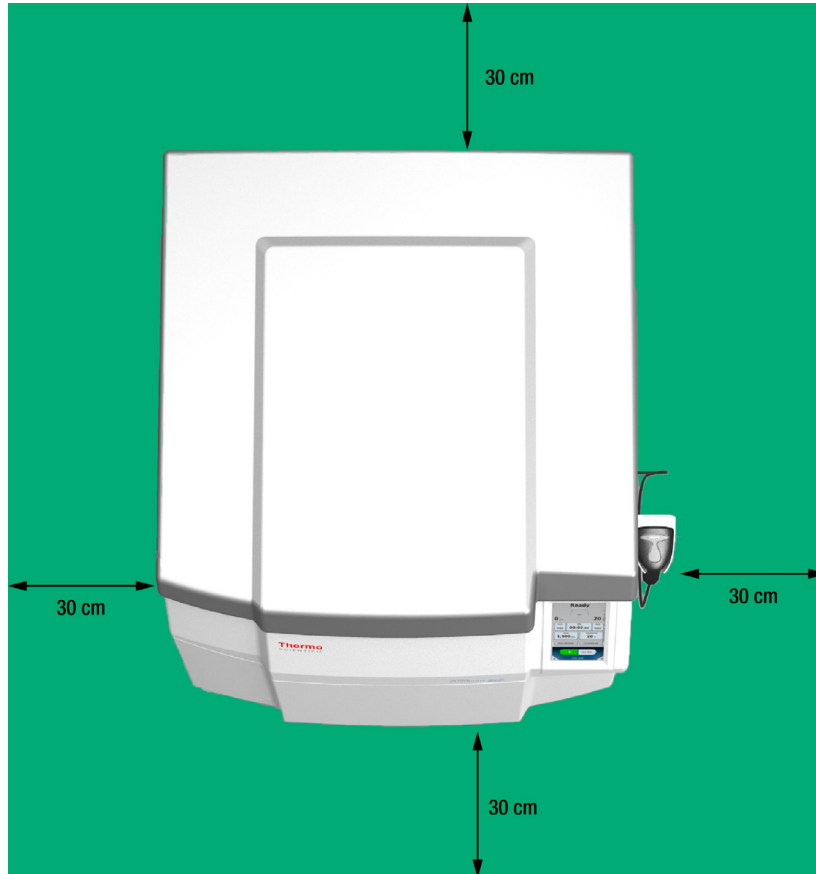

Figure I-1: Centrifuge clearance, example with bar code scanner
- Keep a safety zone of minimum 30 cm (Figure I-1 on page I-2, green area) around the centrifuge.